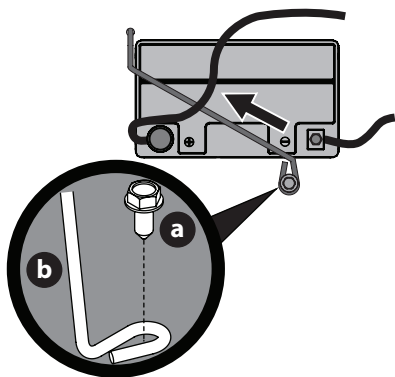

Fig. 16
NOTE: Wiring harness should lay on top of battery hold down rod, otherwise damage to the wiring harness may result (Fig. 16 on page 13).
3. Remove the hex washer screw (a) securing the battery hold-down rod (b) to the frame. Then flip the battery hold-down rod (b) up to free the battery (Fig. 16).